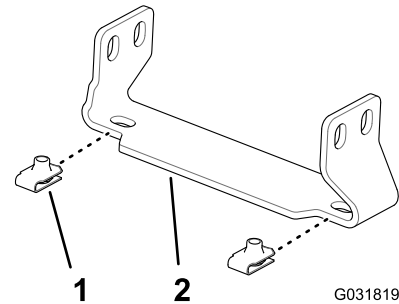

Figure 235
1. Install the 4 clip nuts that you removed in step 6 of 10 Removing the Center Section Cover \(11 Nozzle\) of the Optional Covered Boom Kit \(page 22\) onto 2 of the support bracket of the center section cover (Toro Part No. 131-3703-03) as shown in (Figure 235).
2. Install the 4 clip nuts (Toro Part No. 94-2413) onto the 2 other support bracket of the center section cover (Toro Part No. 131-3703-03) as shown in (Figure 235).